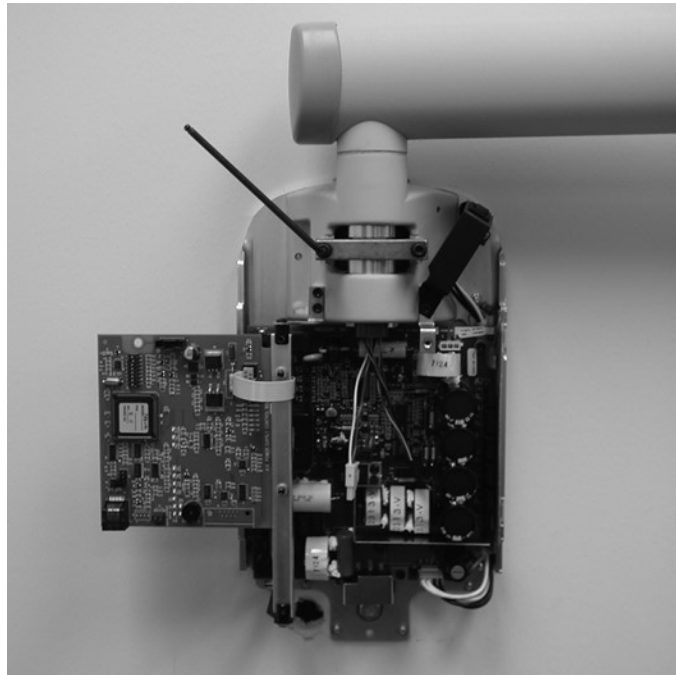

Figure 35
2. Using a 4 mm Allen wrench, as shown in *Figure 35*, tighten the screws equally to apply adequate braking to the pivot post so that Horizontal Arm begins to move after the Articulating Arm.